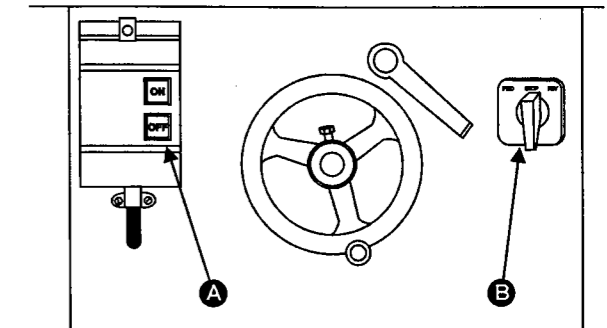

FIGURE 16
The shaper is equipped with a push-button control system (A) and reversing switch (B), Figure 16. The green "start" and red "stop" buttons are mounted in a control enclosure on the front of the machine.